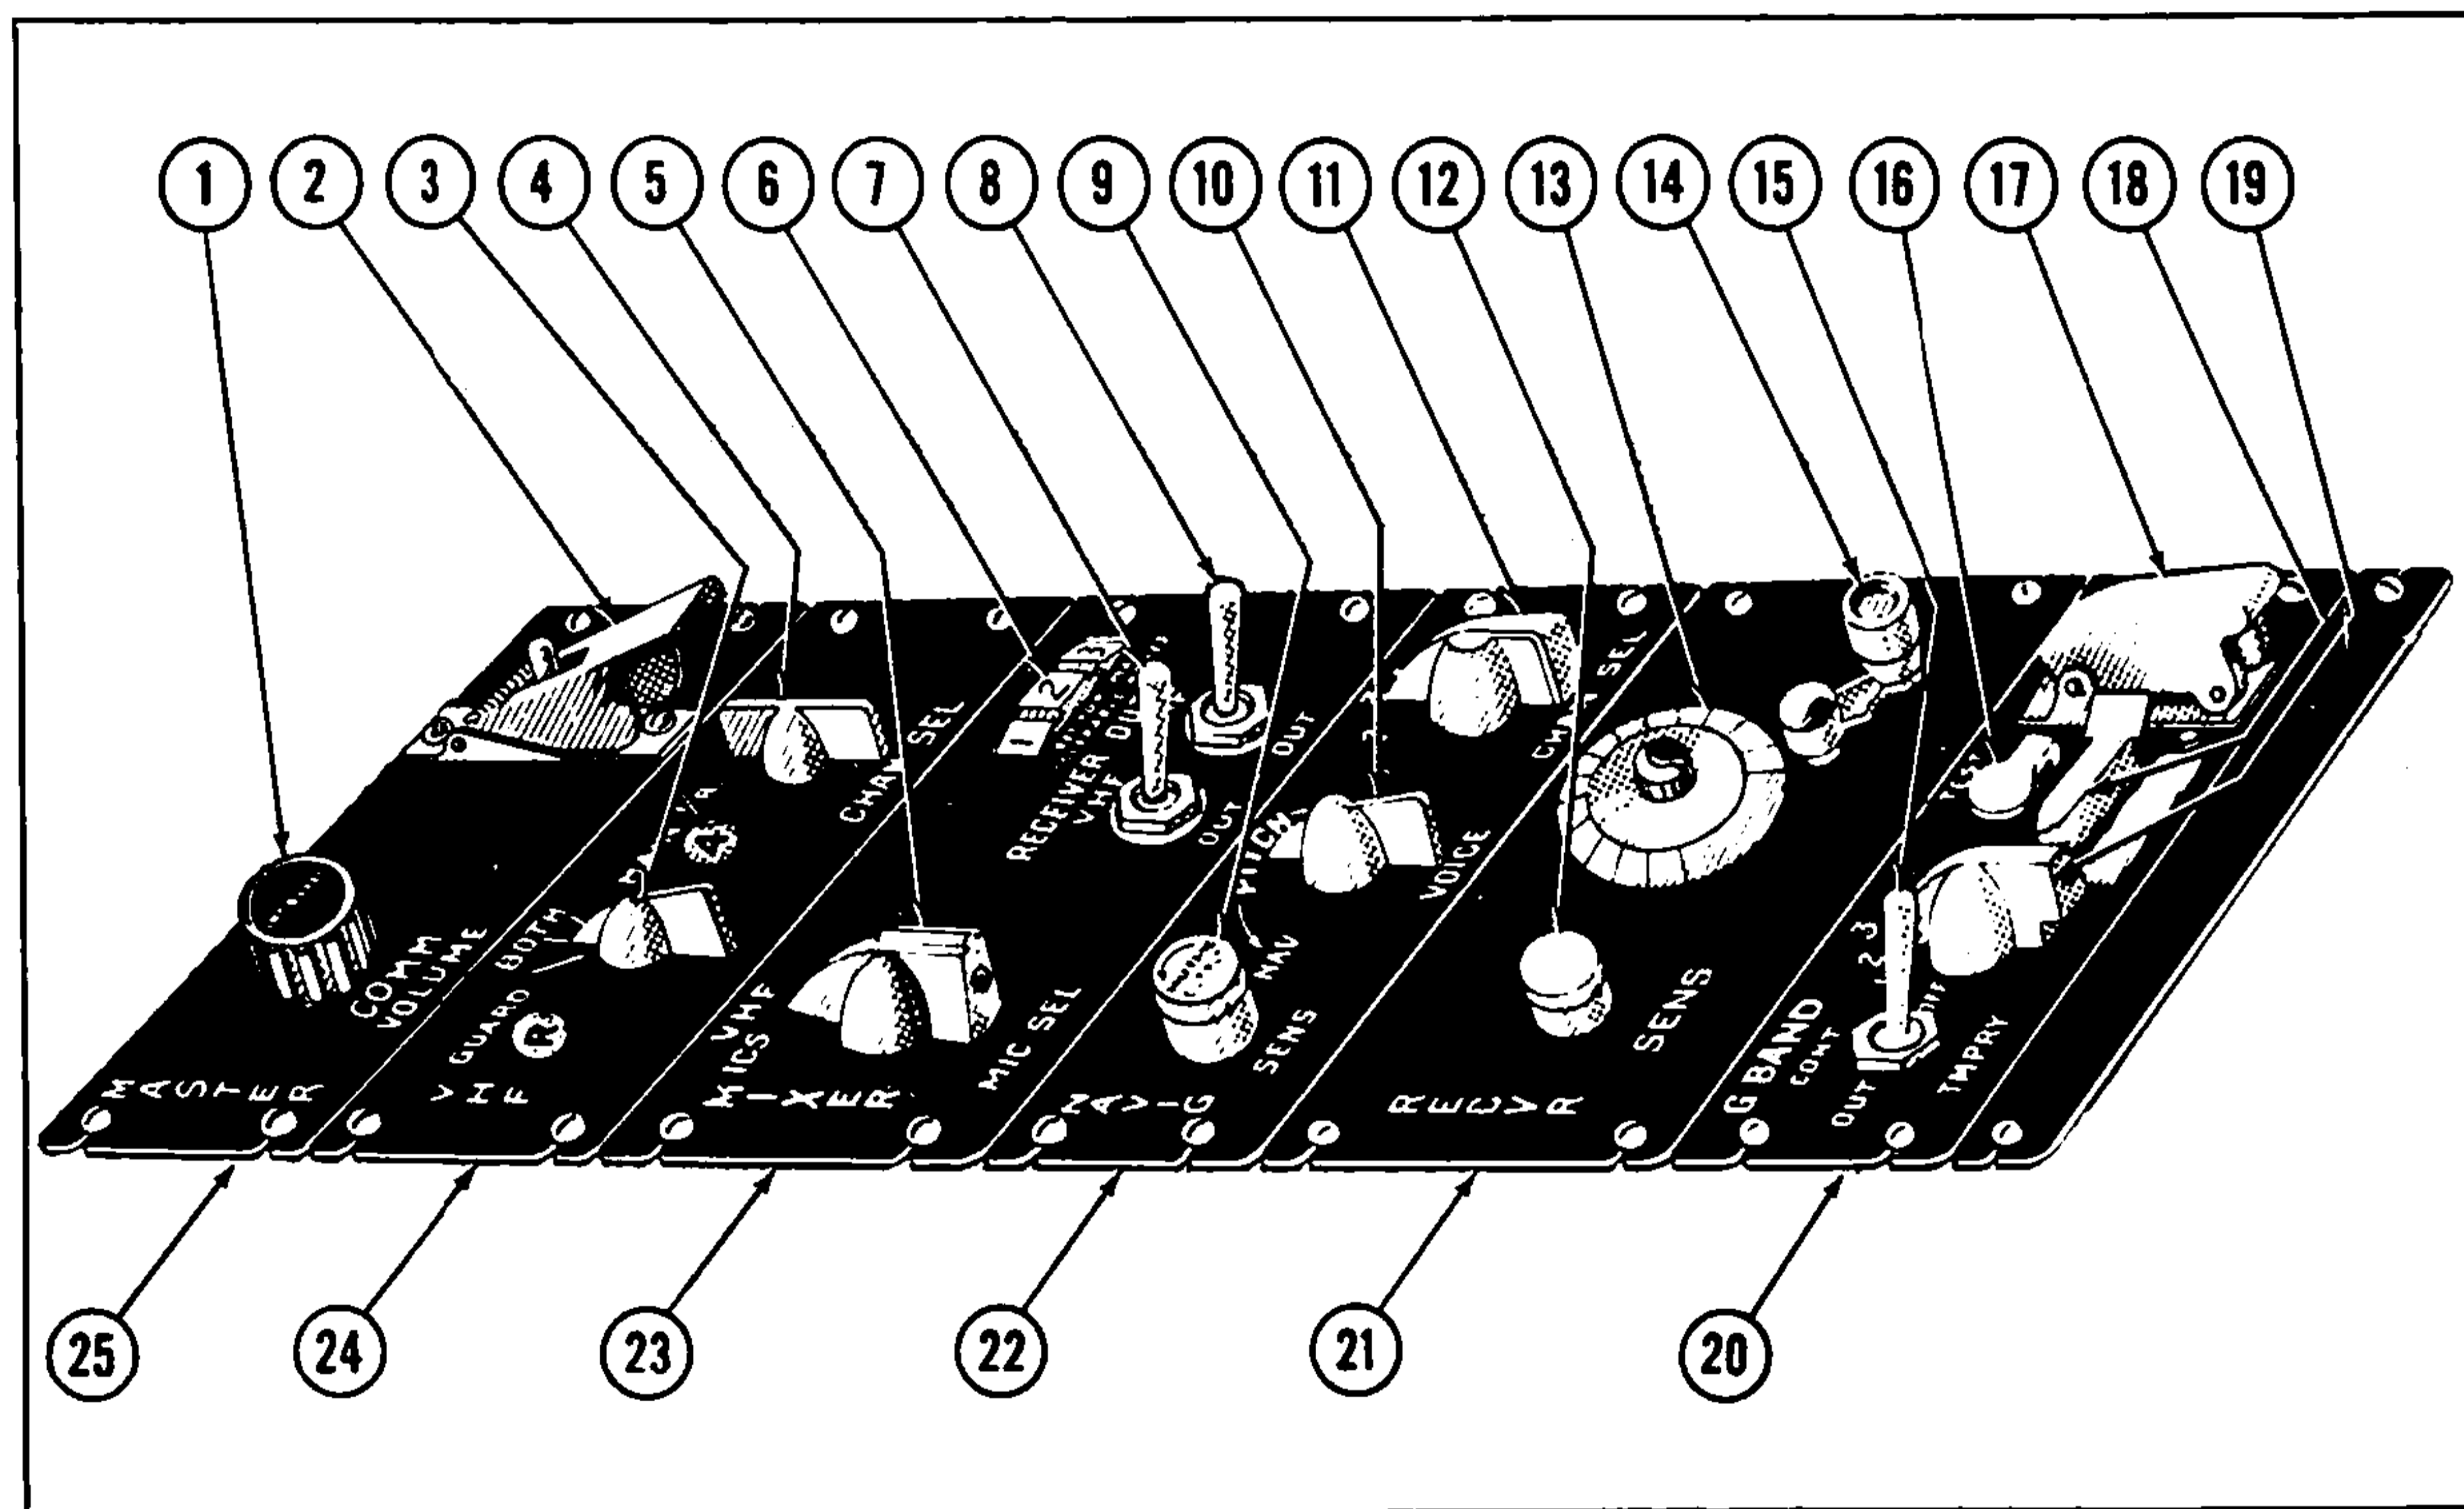

Figure 43 — Radio Control Panel
(6) HF RECEIVER (AN/R26-ARC-5). — This auxiliary high frequency receiver unit may be readily installed whenever the need arises. It operates on a single pre-set frequency in the range between 3.0 and 6.0 megacycles.
b. OPERATION. (See figure 43.)
(1) MASTER CONTROLS.